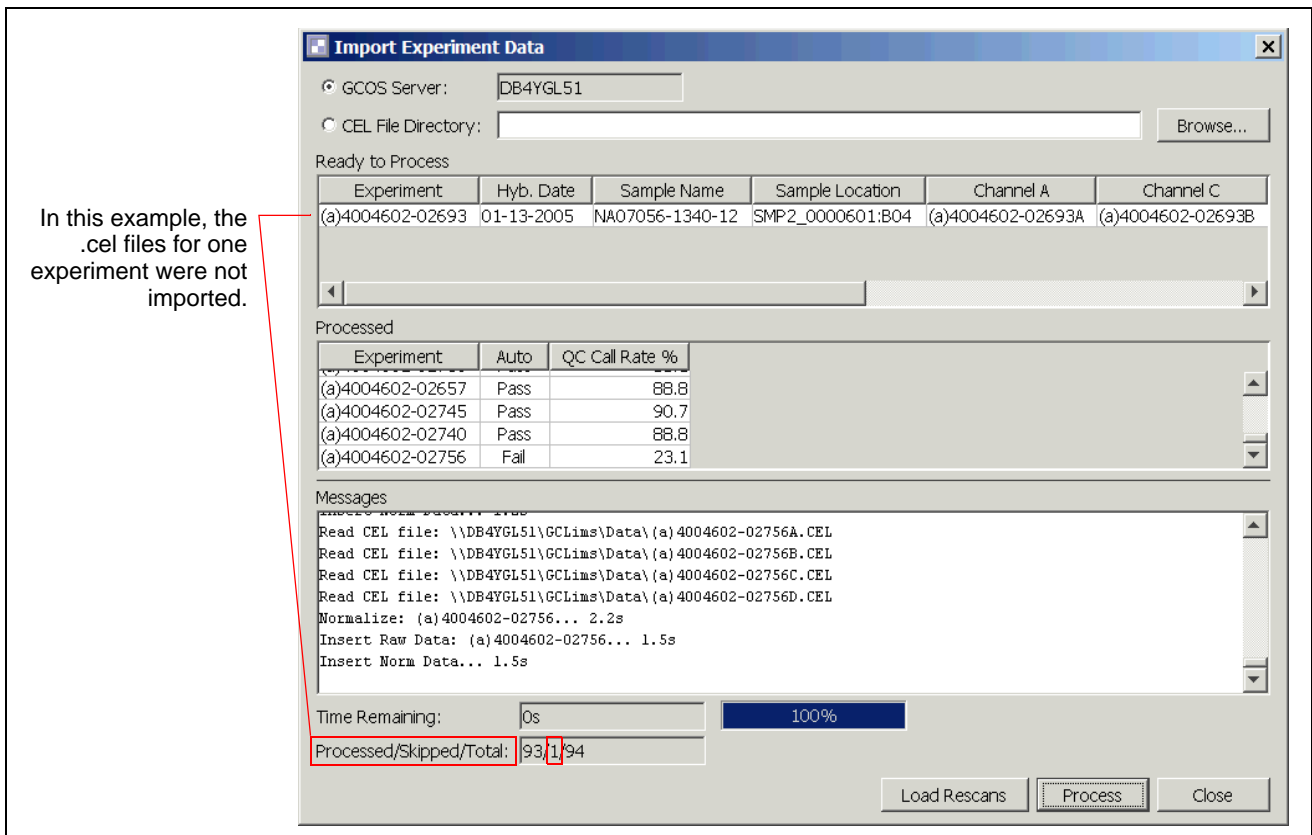
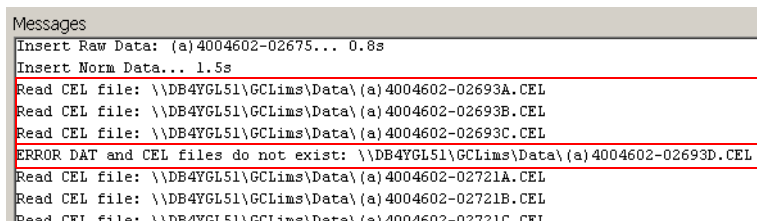

Figure 3.9 .cel File Import and Process Complete
Figure 3.10 Error Message for .cel File Import
When you are finished importing and processing .cel files, the Import Experiment Data window may look something like the one in Figure 3.9. This illustration contains an example of what you will see when one or more .cel files for a particular experiment are not imported.
In Figure 3.9 you can see that the .cel files for one experiment were not imported. The software imported and processed the .cel files for 93 out of 94 experiments.
3. In the Messages field, scroll through the list and locate the Error messages that pertain to skipped experiments (see Figure 3.9 and Figure 3.10.)
In Figure 3.10, the error message indicates that .dat and .cel files for channel D could not be found. A possible cause would be that this particular channel has not yet been scanned.